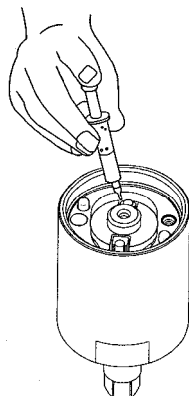

Fig. 227
- ③ Fill up the interior pulse cylinder with the pulse oil about 90% full by an injector. (Fig. 227)
- ④ Install the rear plate taken from the step 2 on the pulse cylinder. Note the corresponding positions!
- ⑤ Turn the assembled unit up side down so the rear plate is at the bottom. Then press the pulse cylinder seat all the way down to the fixed position. Make sure the corresponding positions are matched exactly.